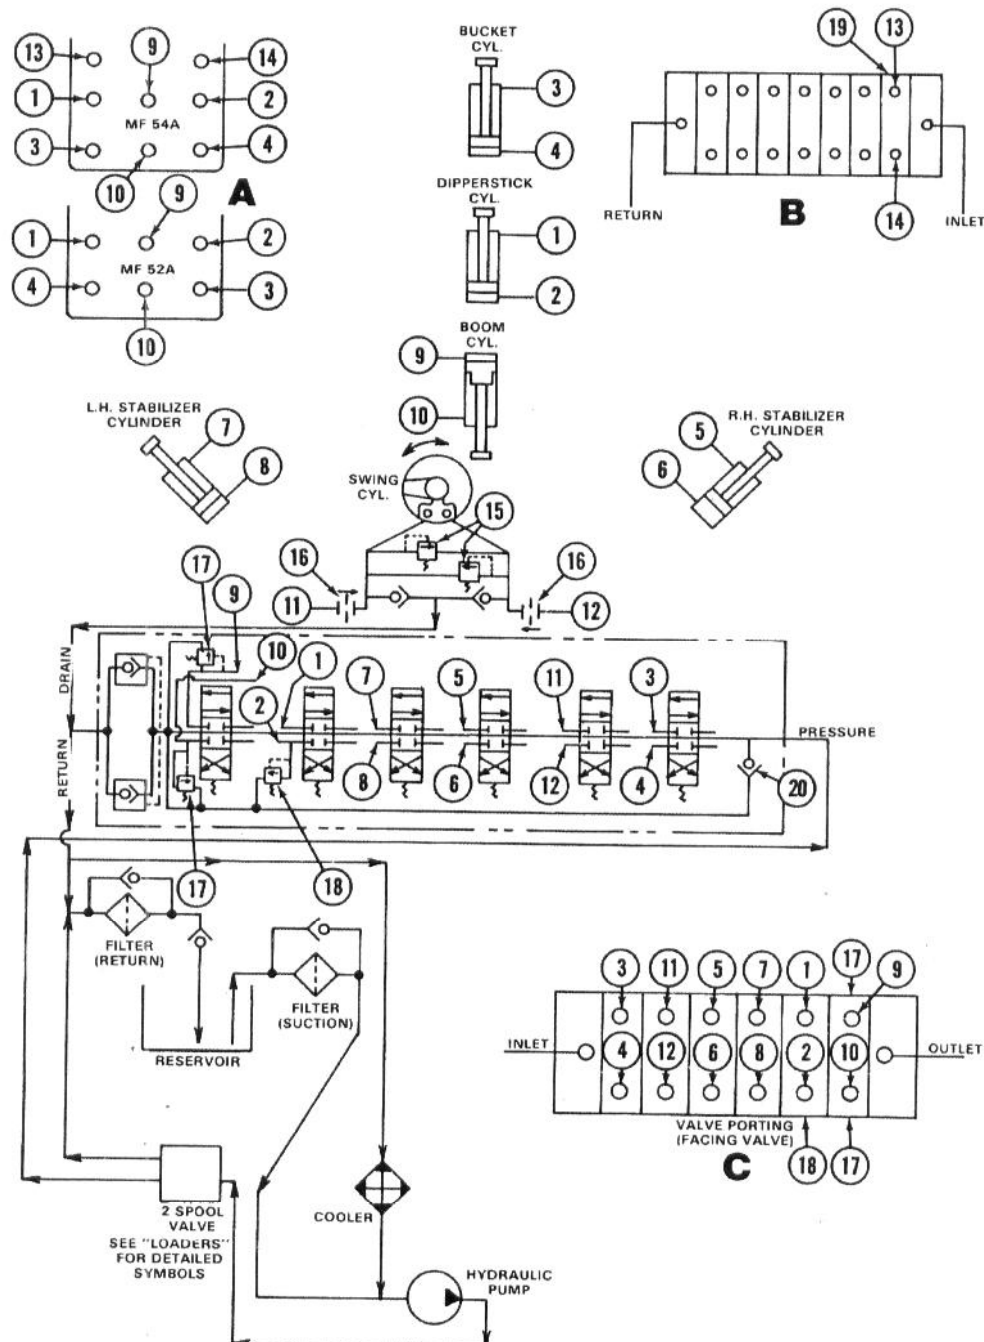

Fig. 1 — Illustration Typical of Backhoe Hydraulics* — Six Control Levers
Figures 1 and 2 illustrate the Backhoes' hydraulic systems. Fig. 3 explains the meanings of some of the graphic symbols used ... as an aid to those servicemen that do not know, but wish to learn, this form of reading. The graphic symbols are meant to illustrate the FUNCTION of a component rather than its construction; however, certain values have been included so as to aid in trouble-shooting.
4. BOOM, DIPPER, BUCKET AND STABILIZER CYLINDERS ... are all double-acting (single rod) type but vary in bore and stroke. The cylinders connect to the valve ports as illustrated in Figs. 1 and 2. The boom cylinder contains a dampening sleeve which acts to cushion it at the extension of its stroke (i.e.: when lowering) ... for this sleeve to work correctly, the cylinder must be installed so that the words "Port Side", stamped on the clevis end of the rod, faces the same side as the cylinder's hydraulic line connection. Both stabilizer cylinders contain a lock-out valve, installed into the head of the cylinders ... these valves "lock" the pressure into the cylinder so as to prevent settling of the Backhoe.